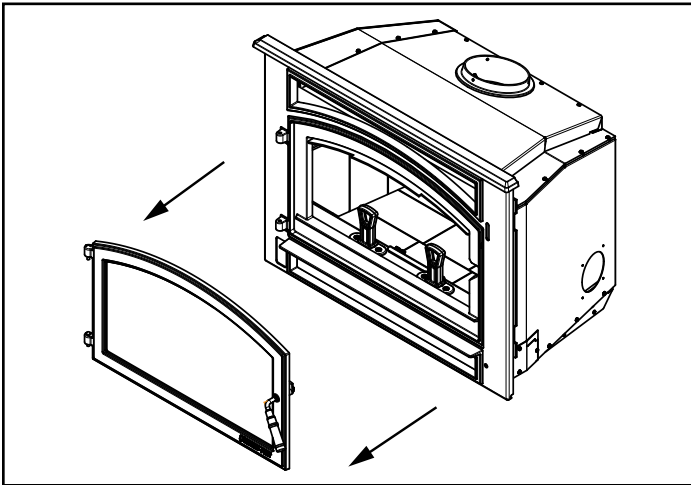

Figure 5.7
2. Remove door by unlatching handle from face and lifting up on door, set aside by laying it onto a protective surface (Figure 5.7).